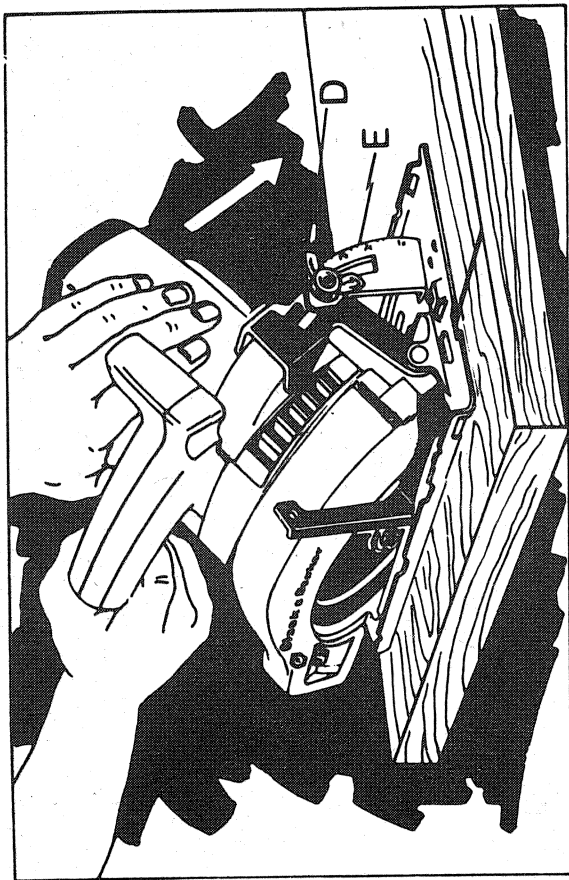

FIGURE 4
DISCONNECT THE SAW FROM THE POWER SUPPLY BY PULLING THE PLUG, BEFORE MAKING THIS, OR ANY OTHER ADJUSTMENT! On the front of the saw is a bevel angle adjustment device (Figure 4) consisting of calibrated quadrant "D" and a knob "E". To set the saw for a bevel cut, loosen knob and tilt shoe to angle desired. Retighten knob firmly.
**CAUTION:** When making bevel cuts, place one hand on the motor housing as shown in Figure 4. Exert only enough pressure in the direction of the arrow to keep the saw shoe flat on the work. This will insure an accurate bevel cutting angle and help prevent the blade from binding in the cut.